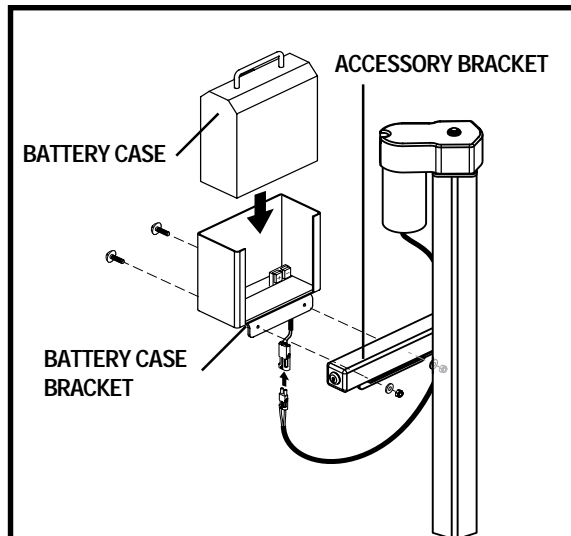

Figure 8. Onboard Battery Installation
1. Align the mounting holes in the battery case bracket with those in the accessory bracket located under the key switch tube. See figure 8.
2. Secure the battery case to the accessory bracket with the supplied hardware. See figure 8.
4. Plug the battery cord on the bottom of the battery case into the mating connector running from the motor. See figure 8.